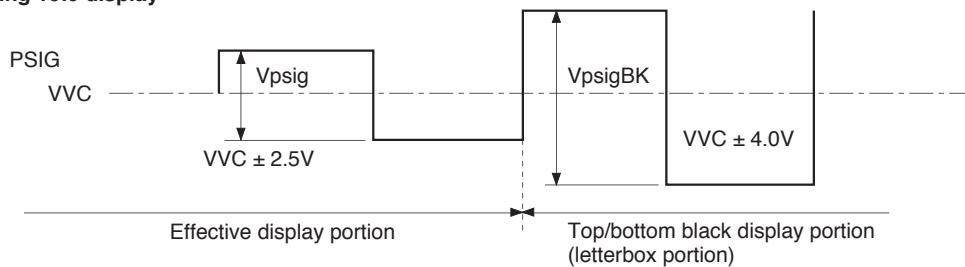

Fig. 2
- 2) During 16:9 display, input the same signal amplitude as in 1) above during the effective display portion, and input the black signal level V_{psigBK} during the top/bottom black input portion as shown in Fig. 2.